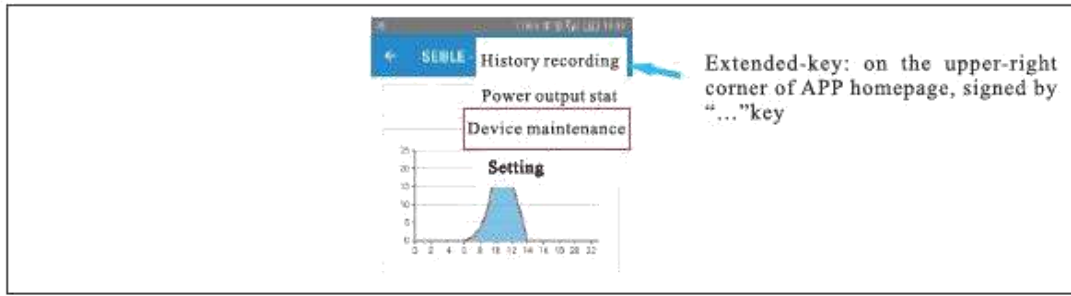

Figure 5.27 SE Touch APP homepage setting
Step 2 Click the extended-key in the homepage of SE Touch APP, and select **setting** in the pop-up menu, as shown in Figure 5.27.